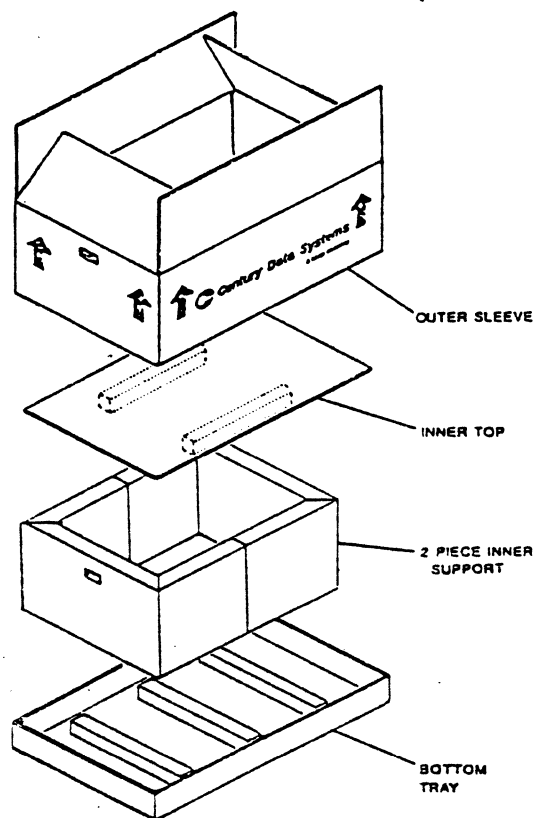

Figure 2-1. Shipping Container
The disk drive shipping container is shown in Figure 2-1. The preformed styrofoam container for drives without enclosures is not shown.
2. The outer sleeve of the shipping container has flaps that open, see Figure 2-1. Open the flaps, remove